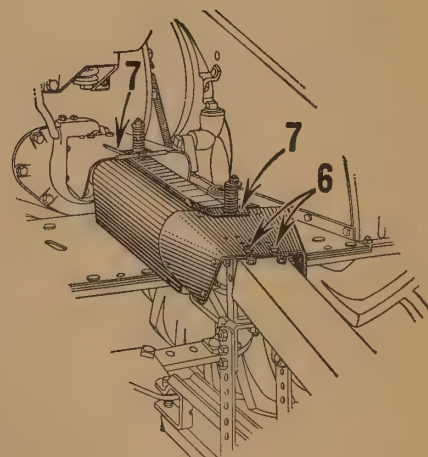

Fig. 37
6. (Fig. 37.) Bolt power shaft shield to **rear** set of holes in power shaft front bearing housing.
7. (Fig. 37.) Attach universal joint and pipe connection shield to take-off shaft shield on tractor and to shield on power shaft front bearing as shown.
1. (Fig. 37.) Bolt bundle elevator drive gear housing support plate at **L. H. set of holes as shown**. This swings the driving universal up in proper line for driving the bundle elevator.
2. (Fig. 37.) Bolt Parallel Bar with braces to **rear** of Main Frame Sill. Braces bolt at **R. H. bolt for Gear Housing Support Plate**.